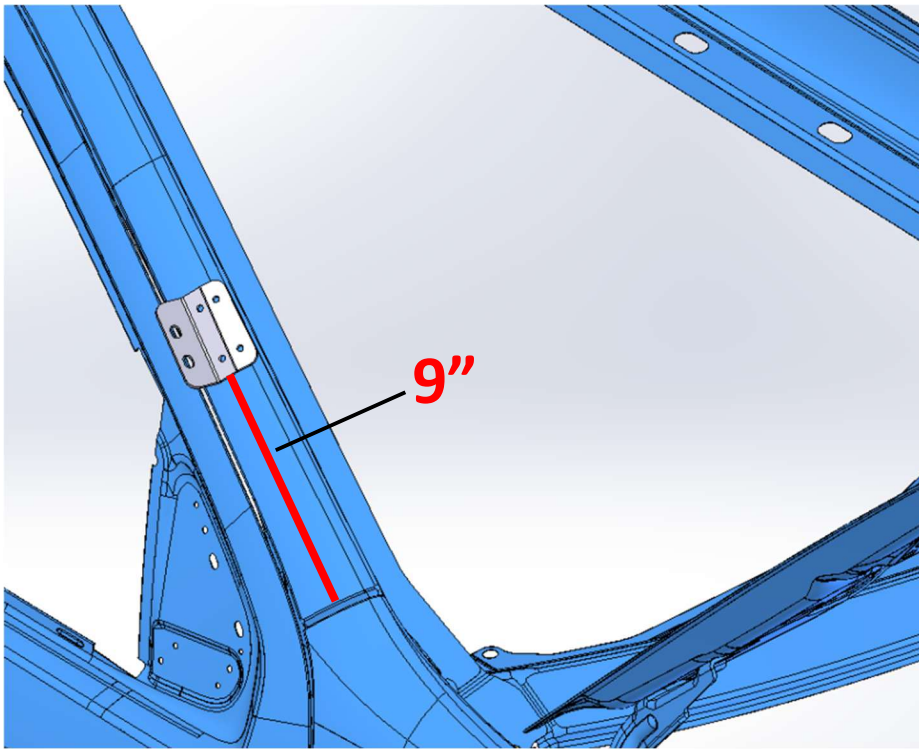

Figure 5
12. Attach A-Pillar Bracket to A-Pillar Per Steps below (fig. 5)